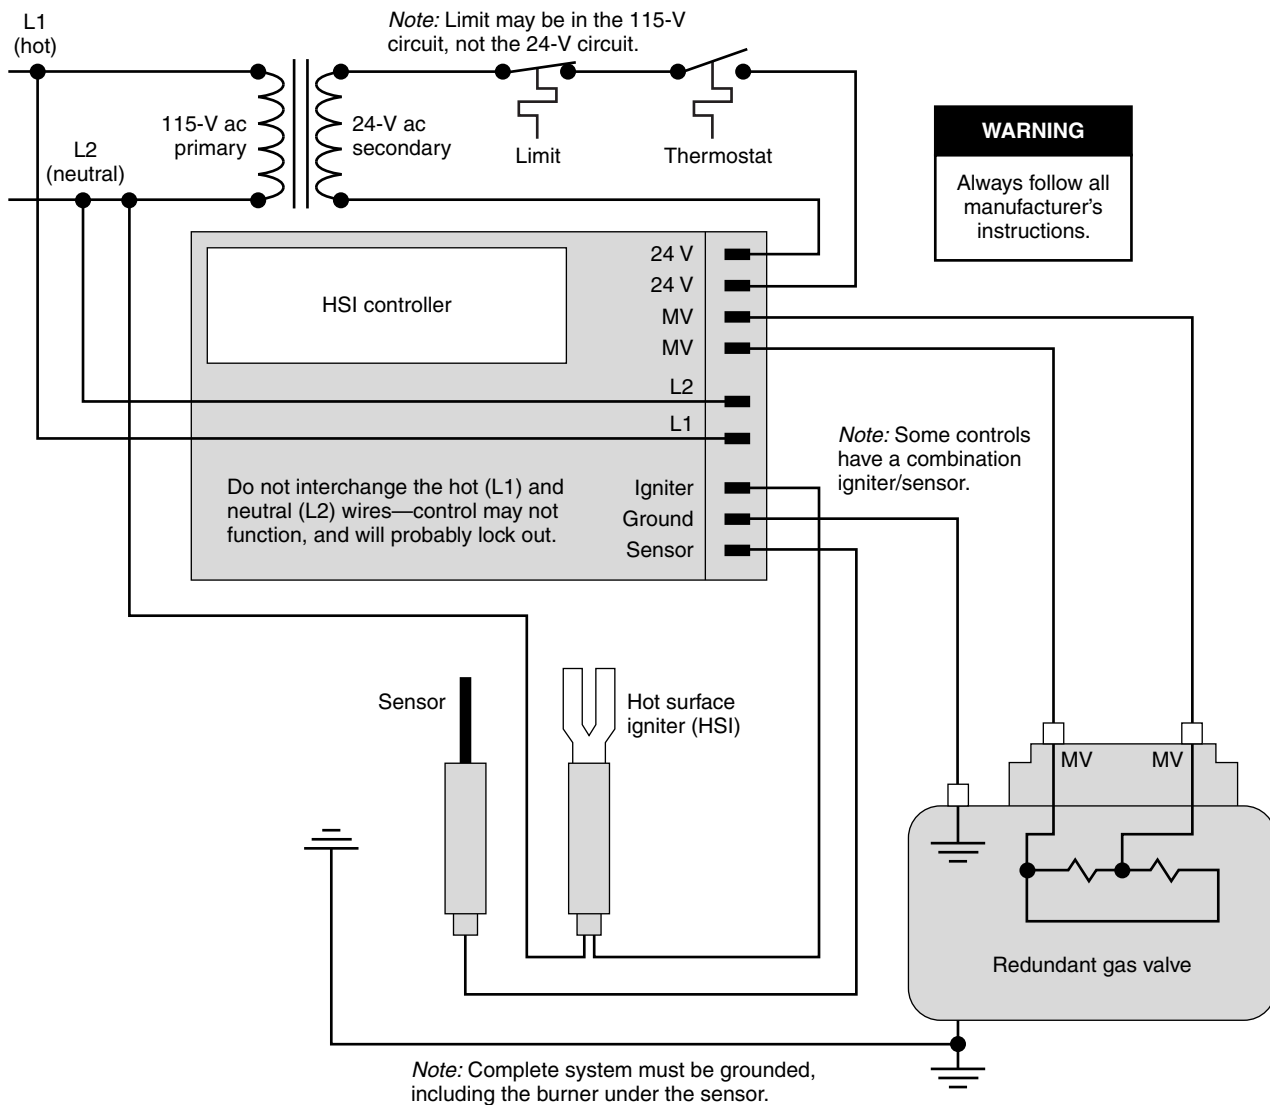

Figure 2. Typical HSI module/gas valve wiring
► *HSI (hot surface ignition)*. Most HSI systems light the main burners directly with a silicone carbide igniter (hot surface igniter). In other respects, HSI systems are similar to DSI systems. That is, if the main burners do not light within a few seconds, the control will shut off the system. Some systems will try to relight the burners for a set number of times to prevent nuisance lockouts. Flame rectification is used as the method of proving ignition of the gas. HSI systems are 100% lockout whether the system is natural gas or LP-fired. Figure 2 shows a typical HSI module.